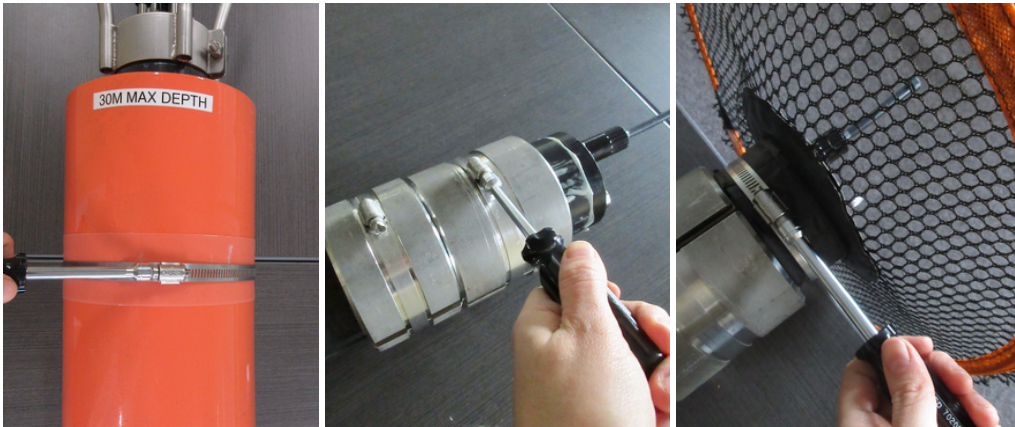

Figure 18: Installing the flotation (left), ballast (middle) and drag net (right) for uprising profiles.
- Flotation (Uprising only): Size #104 (Figure 18, left).
- Ballast Collars: Size #60 (Figure 18, middle).
- Drag Net: Size #52 (Figure 18, right).